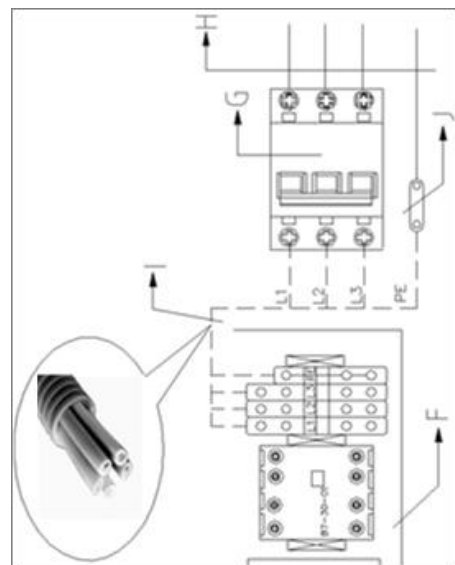

Figure 11 220-240V 3P
Connect the power supply as shown in Figure 11: Use the supplied power supply cables (I) (refer to technical data sheet). Connect the 3-phase cable